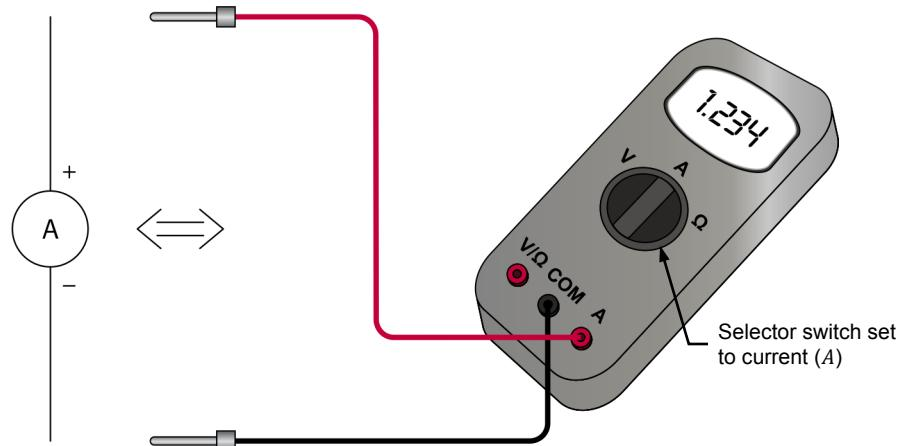

Figure 11. The multimeter is used as a dc ammeter.
Figure 11 shows a multimeter set to measure current (ammeter). The probe (usually red) connected to the I (current) terminal of the multimeter is the positive (+) terminal of the ammeter. The probe (usually black) connected to the COMMON (COM) terminal of the multimeter is the negative (-) terminal of the ammeter. The selector switch on the multimeter is set to current (I).